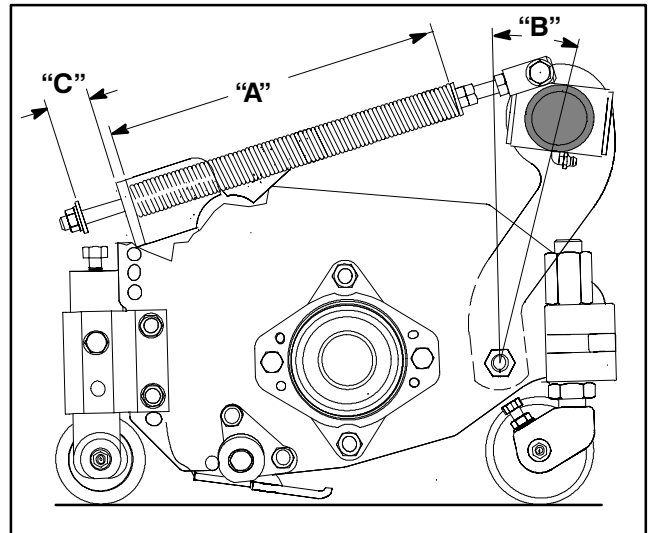

Figure 6
The Turf Compensation Spring (Fig. 6), connecting carrier frame to cutting unit, controls the amount of fore-aft rotation available, as well as the amount of ground clearance in transport and turn around.
1. Tighten lock nut on rear of spring rod until the gap (C) between rear of spring bracket and front of washer is 1 – 1/2" (38 mm) (Fig. 6).
2. Tighten hex nuts on front end of spring rod until the compressed length (A) of spring is 8" (203 mm) (Fig. 6).
- NOTE:** When cutting rough or undulating turf, increase compressed length (A) of spring to 8 – 1/2" (216 mm)
and gap (C) between rear of spring bracket and front of washer to 2" (51 mm) To attain this adjustment, spring rod must be unthreaded from rod end approximately 1/2". (Fig. 6).